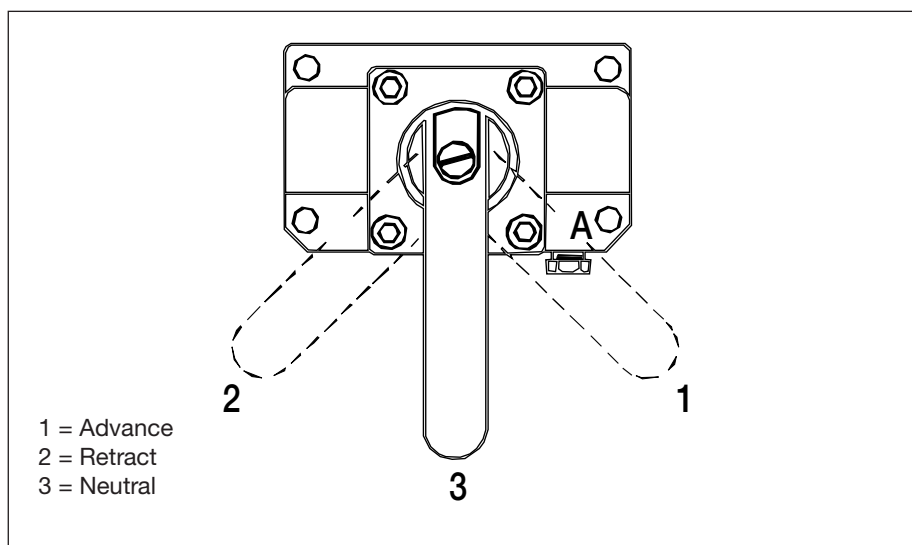
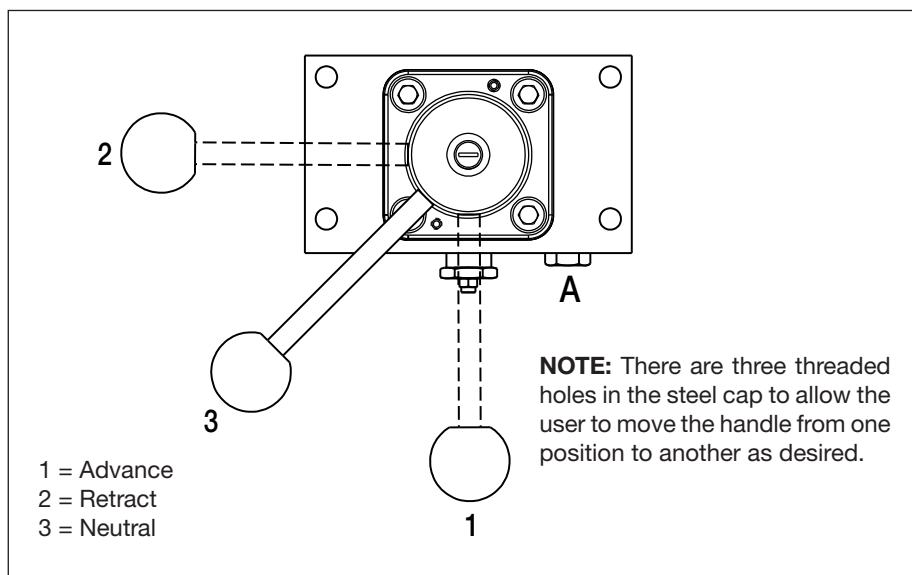

Figure 7, Valve Handle Positions, VM33VAC
Figure 8, Valve Handle Positions, VM33MVAC
3. Rotate the control valve handle to the neutral ("3") position. See figure 7 for VM33VAC valve positions. See figure 8 for VM33MVAC valve positions.